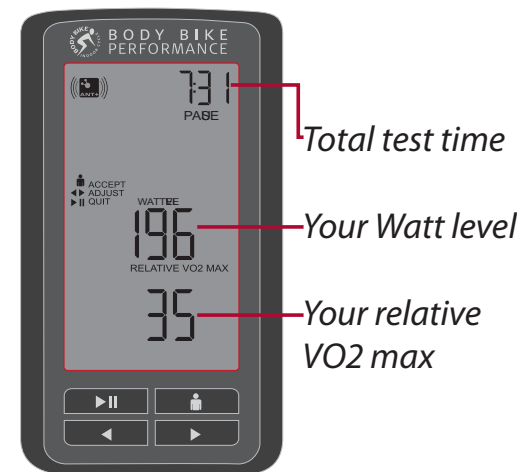

Figure 40
- 7: Continue until you are unable to progress further. Press any button to end test. The display will show your relative VO2 max and your watt level, see figure 40. Press or to accept and end or use to adjust.